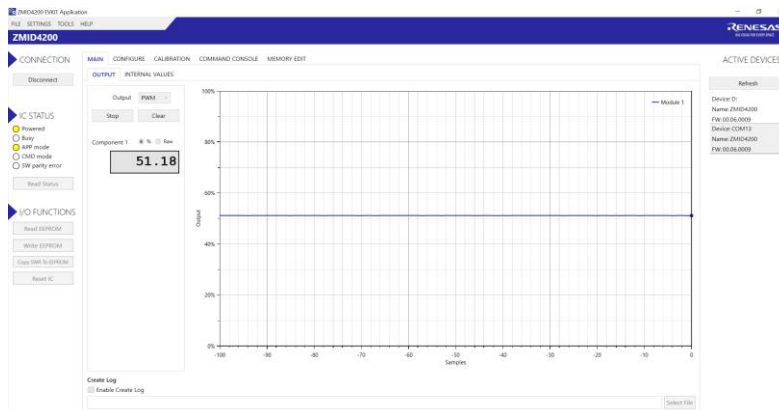

Figure 3: Calibration GUI.
- 1 Connect the ‘ZMID4200STKI Inductive Position Sensing Starter Kit’ with the PC on which the above application is installed. As shown in figure 3.